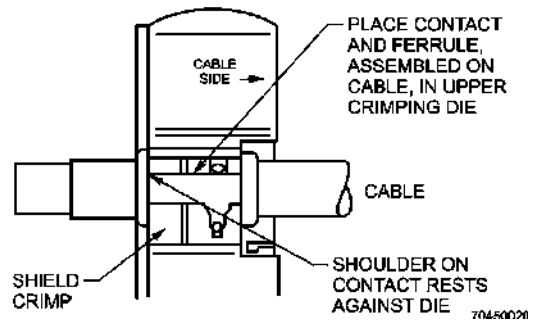

Figure 10-72 Contact-Ferrule Assembly in Ferrule Crimping Die of Crimping Tool AMP 220015-1 Ready for Crimping
- (3) Position ferrule over braid and against shoulder on contact.
- (4) Place the contact-ferrule assembly in the appropriate crimping die (from Table 10-27) of the tool, with the shoulder of the contact against the tool jaw. (See Figure 10-72 and 10-73)
- (5) Close tool handles until ratchet releases to from braid crimp.